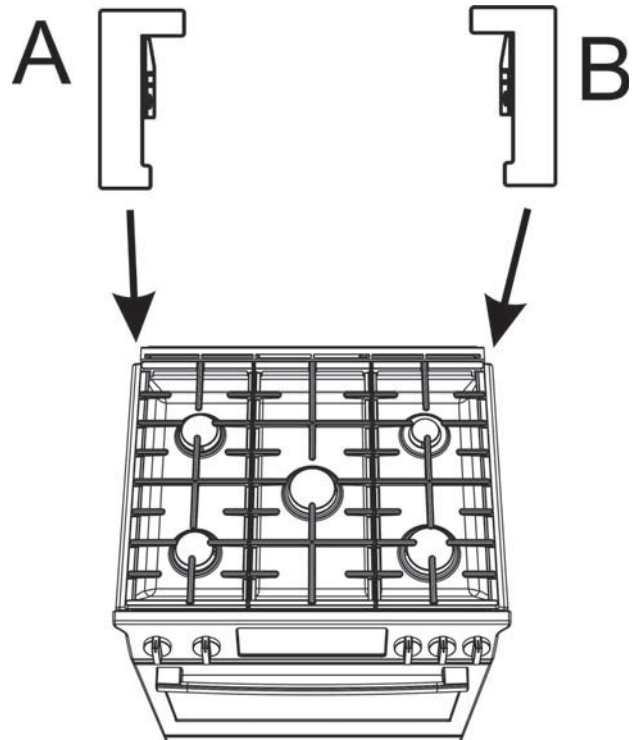
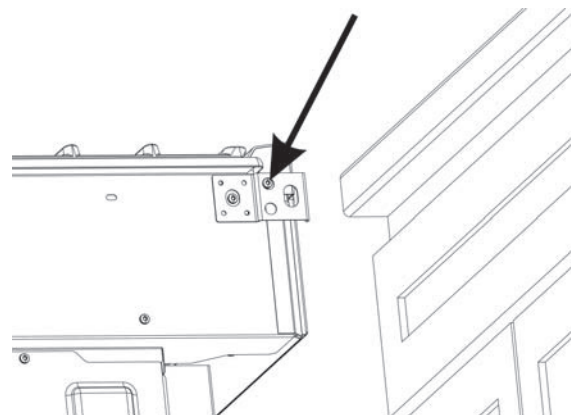

Figure 1: Identify right and left corner covers
Figure 2: Rear trim side screw location
- Installation of Corner Covers requires access to the mounting screws on the sides of the range. If electrical or gas connections prevent access to the screws, contact a qualified technician before proceeding (see Figure 2: Rear trim side screw locations).
If the range is already installed, can the range slide out enough to give access to the side screws of the rear trim? See Figure 1: Identify right and left corner covers and Figure 2: Rear trim side screw location.
2. Identify which corner cover is to be attached to the left (A) and right (B) rear of the range. See Figure 1: Identify right and left corner covers.
3. Slide the range out enough to access the rear trim side mounting screws (see Figure 2: Rear trim side screw location). Read the *Proper Handling Technique Notice* in the Safety Section of this manual.
4. Remove only the two side screws holding the rear trim (one on each side); see Figure 2: Rear trim side screw location. Save these screws to attach the corner covers. If there are no screws in these locations, screws are included in the kit for this purpose.